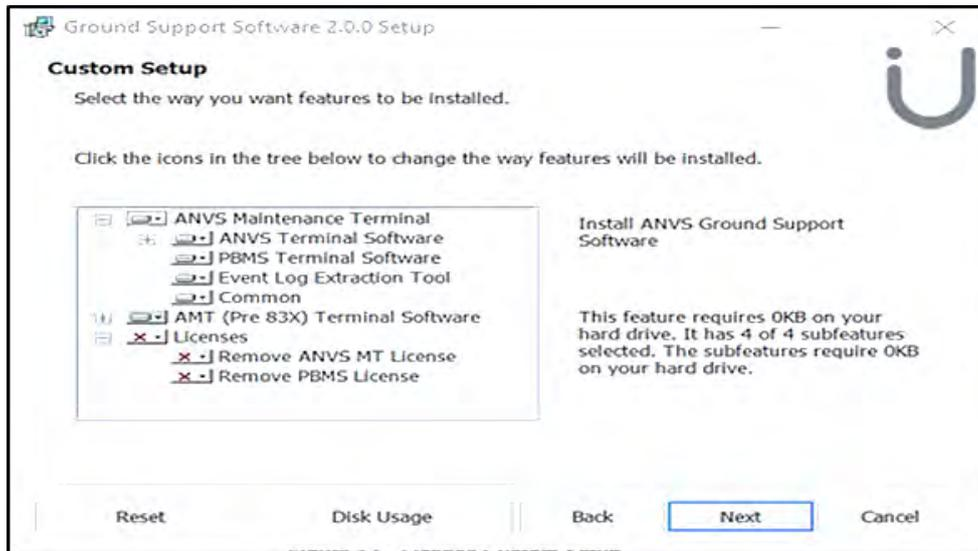

Figure 2-14 Custom Setup
(7) Expand the Licences feature. (Ref Fig 2-14)